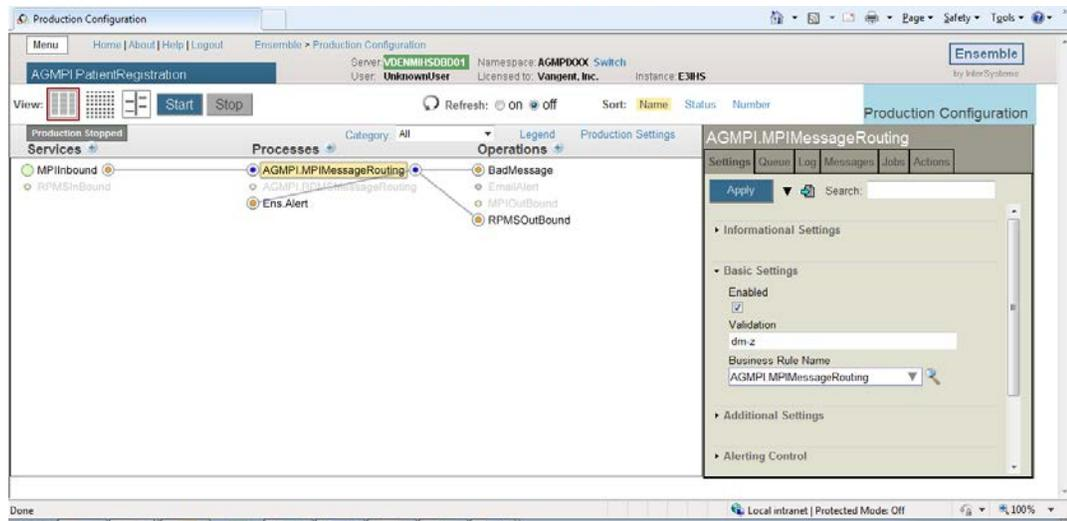

Figure 5-13: Graphic representation of the production instance on the **Production Configuration** page
9. The **Production Configuration** page displays a graphic representation of the production instance, as shown in Figure 5-13. The actual production instance may look slightly different from the example shown in Figure 5-13.